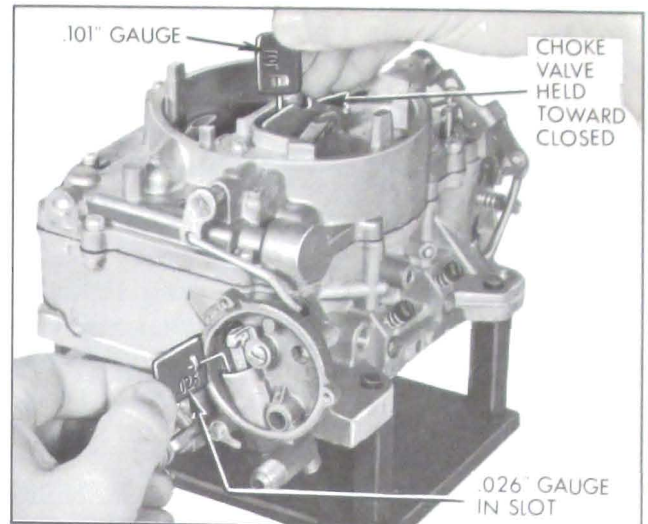

Figure 3-42—Choke Piston Adjustment
1. Adjust Choke Piston Position. Inside choke piston bore on left side, about 1/2 inch down, is a small slot. Insert 1/8 inch bent end of .026" Wire Gauge into upper end of slot; then close choke valve until piston stops against gauge. Check opening between upper edge of choke valve and inner wall of air horn using .101" Wire Gauge. See Figure 3-42. If